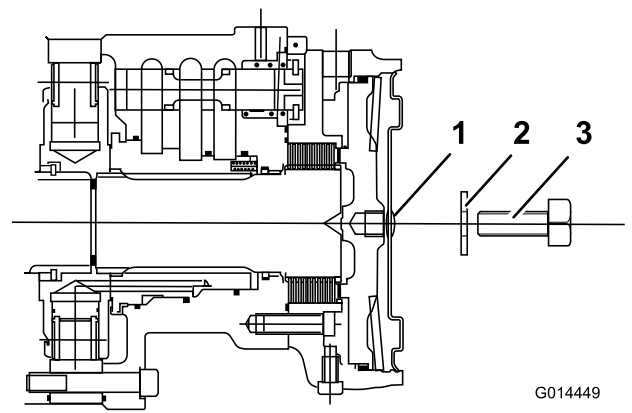

Figure 46
6. Identify the left hand front wheel motor disc brake assembly and repeat the previous procedure (Figure 46).